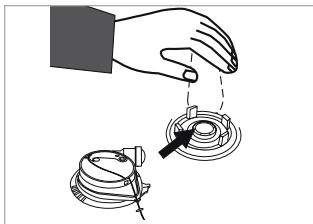
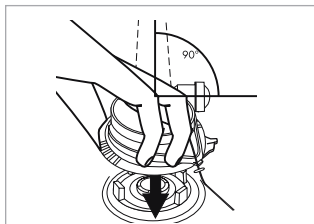

FIGURE 14 HOLD CYLINDER
FIGURE 15 REPLACE CAP
- 8) Hold the CO2 cylinder through the fabric of the life jacket (Fig. 14). Position the replacement cap with the water inlet valve pointing to the right and press firmly onto the inflator body and sealing ring (Fig. 15).